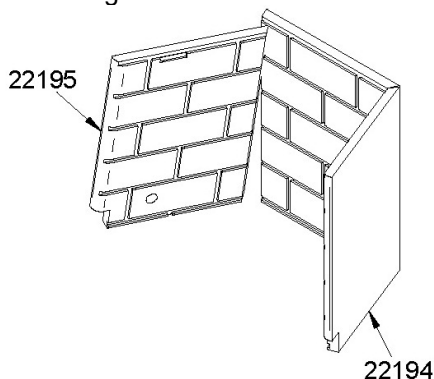

Figure 42.4
4. Remove the left and right side refractory panels (22195 and 22194) or (22332 and 22331) **Figure 42.4**